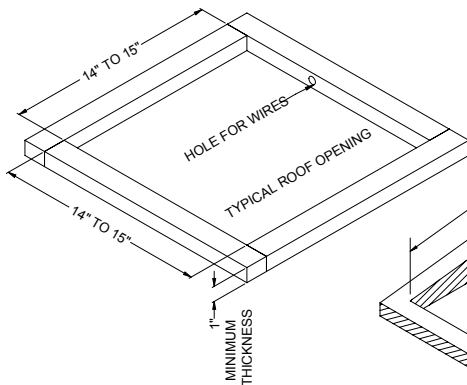

FIGURE 1
enlarged. If the opening exceeds 15" x 15", a mounting frame must be field fabricated to reduce the opening size (See Figure 1).
2. If a roof vent opening is not used, a new opening (See Figure 1) will have to be cut into the vehicle roof. A matching opening will also have to be cut into the interior vehicle ceiling. Be careful when cutting the ceiling opening. If the ceiling opening is carpeted, snagging could occur. After the opening in the roof and interior ceiling are the correct size, a framed support structure must be provided between exterior roof top and interior ceiling. The reinforced framed structure must provide the following guidelines:
Airxcel's 45000 series requires that the spacing from the vehicle roof top to the interior ceiling be no less than 1". A typical support frame is shown in Figure 1. The frame must provide an opening to allow passage for the power supply wiring. Route the supply wiring through the frame at the same time the support frame is being installed.